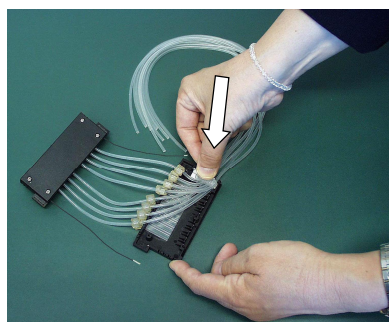

Figure 5-43. Pressing the tubing identification plate into place
8. Press the white tubing identification plate into place on the right-hand side of the bottom cover of the upper part of the dispensing cassette (Figure 5-43).